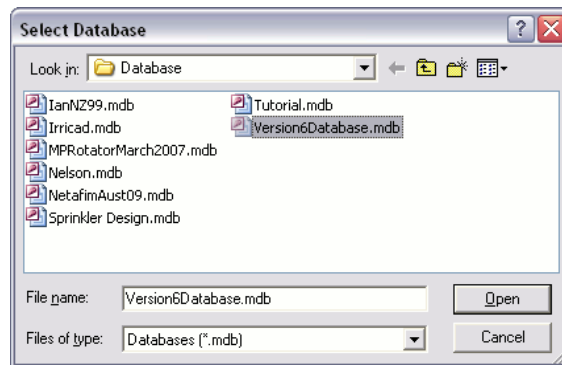

Figure 5-23
2. To use the currently selected database (i.e. the default database) select **[Yes]**. Select **[No]** if a different database is to be used. A dialog will appear in which you can browse for and select the required database as shown in Figure 5-23. Click **[Open]**.